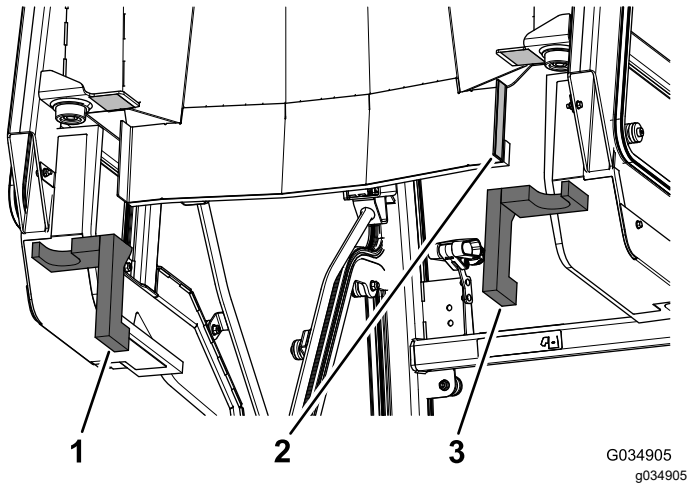

Figure 16
- Remove the paper backing from the double-faced tape at the back of the cab unit (Figure 16).
- Apply the left, rear and right, rear foam seals to the cab unit (Figure 16).